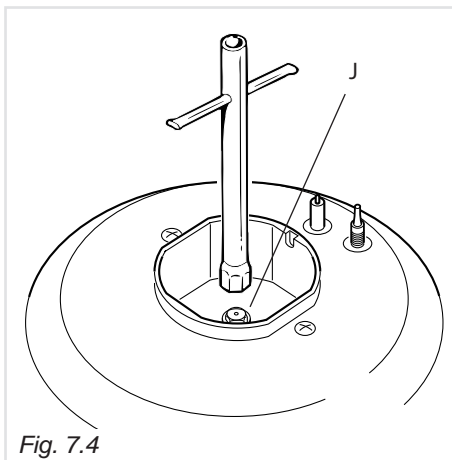

Fig. 7.4
- Using a wrench, substitute the nozzle injectors “J” (fig. 7.4) with those most suitable for the kind of gas for which it is to be used.